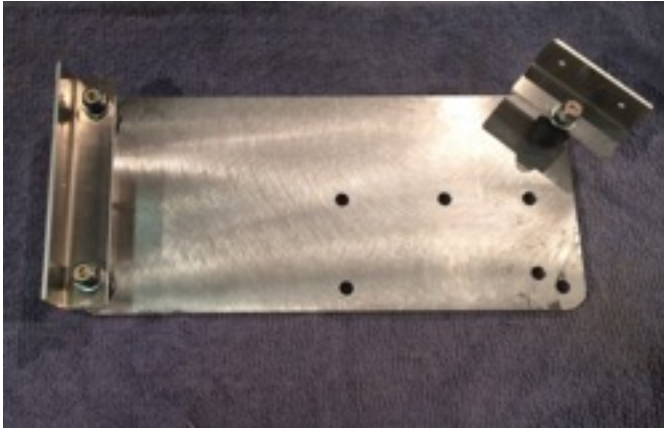

Figure 9 – ECU Assembly Used as Template
25. Locate the two (2) aluminum brackets, ECU mounting plate, hardware, and rubber standoffs. Assemble these together loosely, as shown in Figure 9, outside of the car.